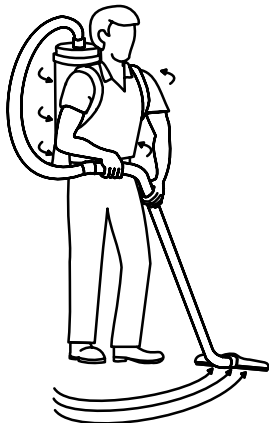

FIG. 20
2. Draw the top of the wand in toward your waist and twist at the waist walking backward or forward (a side-to-side motion) (Figure 20).